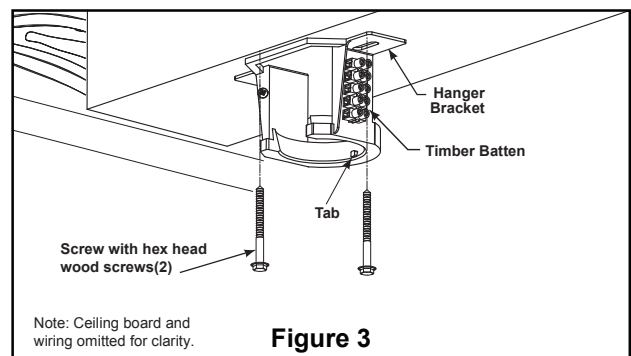

Figure 3
1. Drill a hole in the ceiling board and batten for wiring. Securely attach the hanger bracket to a rafter, beam or other structural support using pan head fasteners (for use with flat surfaces). Never use countersinking screws or those without flat contact to the bracket. (Figure 3)
1. Securely connect the green/yellow earth wires from the hanger ball and the hanger bracket and the supply green/yellow earth wire to the terminal block as shown in Figure 3.
2. Securely connect the blue fan motor wire and the black supply neutral to the "N" terminal of the connector block as shown in Figure 3.
3. Securely connect the brown fan motor wire and the wire from the wall control to the "L" terminal on the connector block as shown in Figure 3.
4. Securely connect the red light wire and the wire from light switch to the "L1" or light symbol terminal of the connector block as shown in Figure 3 (if applicable).
2. Ensure wiring connections are as shown in Fig 3. The Active (Red) supply wire must be connected to terminal "C" on the rotary switch. Return switched wire to ceiling fan to be connected from terminal "3" on the rotary switch to "L" terminal on the connector block.